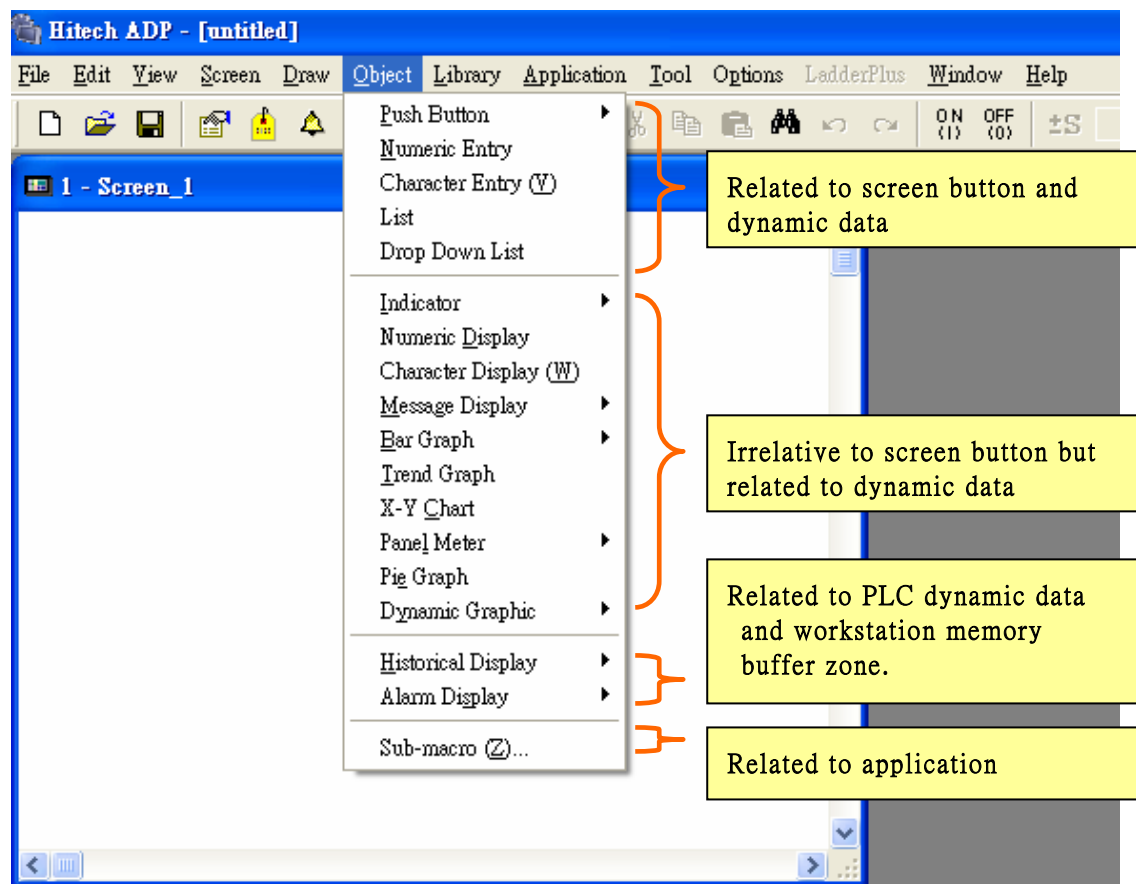

Figure 93. The [Object] Commands List
Objects are divided into four categories: (1) related to screen button and dynamic data; (2) irrelative to screen button but related to dynamic data; (3) related to PLC dynamic data and Workstation memory buffer zone; and (4) related to application. See Figure 93.